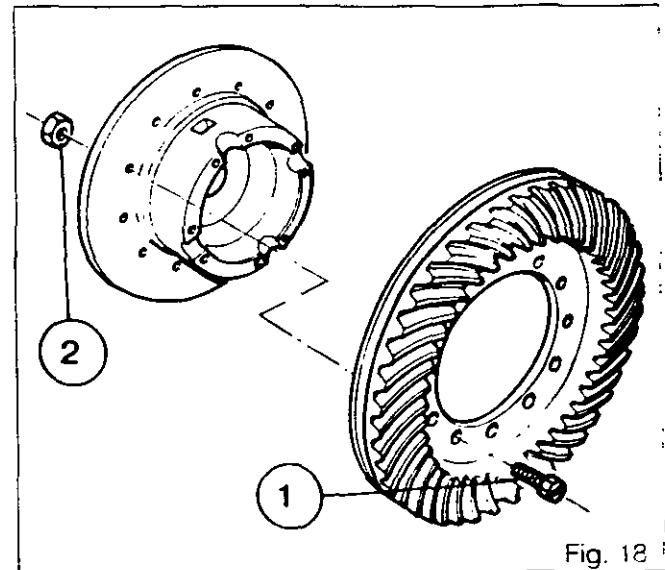

Fig. 18
67. Clean the contact faces of the new crownwheel (23) and of the carrier (29) and the screws and nuts referred to in the spare parts catalogue.
68. Smear the screws (1) (Fig. 18) with Loctite 270 on the first threads and place them in the crownwheel and carrier.
69. Tighten and lock the nuts (2) (Fig. 18) to a torque of 150 - 160 Nm.